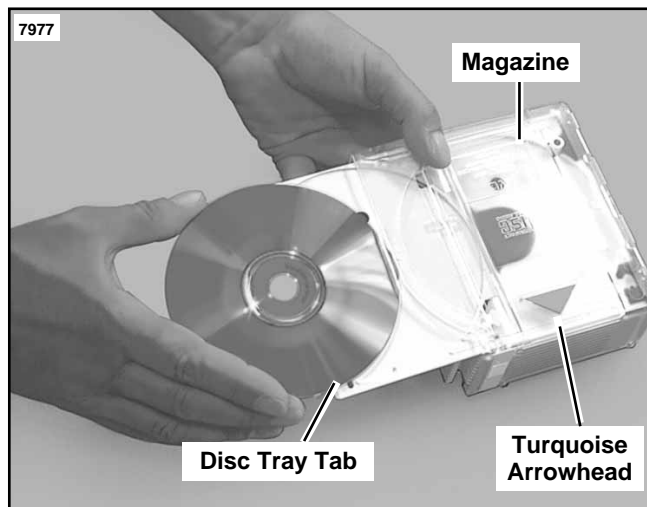

Figure 1. Loading Magazine
1. See Figure 1. Slide the disc tray partly out from the magazine until it stops.
2. See Figure 1. Insert the CD Magazine into the CD Changer loading slot with the disc tray tabs facing the right side of the motorcycle and the Turquoise Arrowhead on the CD Magazine facing DOWN (toward bottom of Tour-Pak) and forward.